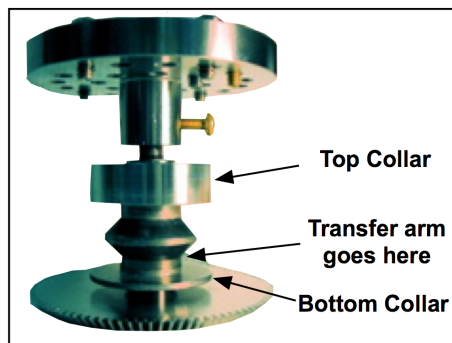

Figure 2. Picture of the stub with indication of where the transfer arm holds the stub.
- 7) Place the stub onto the load lock arm using the bottom notch, Figure 2. The stub has a freely rotating spindle below a short, cylindrical collar (see image on page). The bottom notch of the spindle should fit snugly into the arm. Rotate the magnet on the arm to lock the stub in place. Close the load lock door.